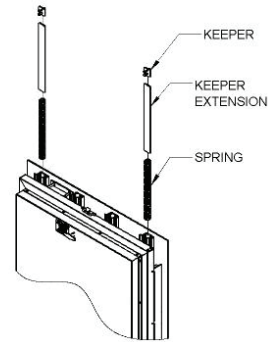

FIGURE 1
- C. Slide in the keeper extension until it rests on the spring. (Figure 1)